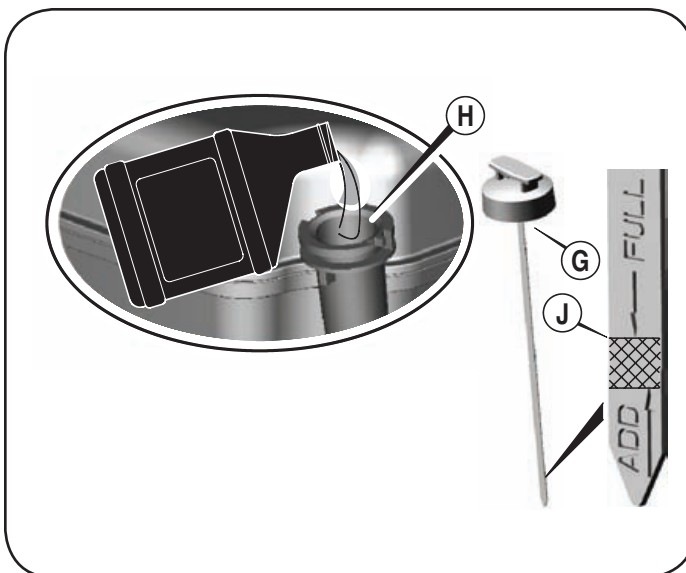

Figure 13
1. Remove oil fill dipstick (G). See Figure 13.
2. With the mower on level ground, empty entire contents of oil bottle provided into the engine oil fill (H).
3. Insert and tighten the oil fill dipstick. Remove it to check the oil level. See Figure 13.
4. If the oil level is near or below the lower limit mark on the dipstick, remove the oil fill dipstick, and fill with the recommended oil to the upper limit mark (J). Do not overfill.